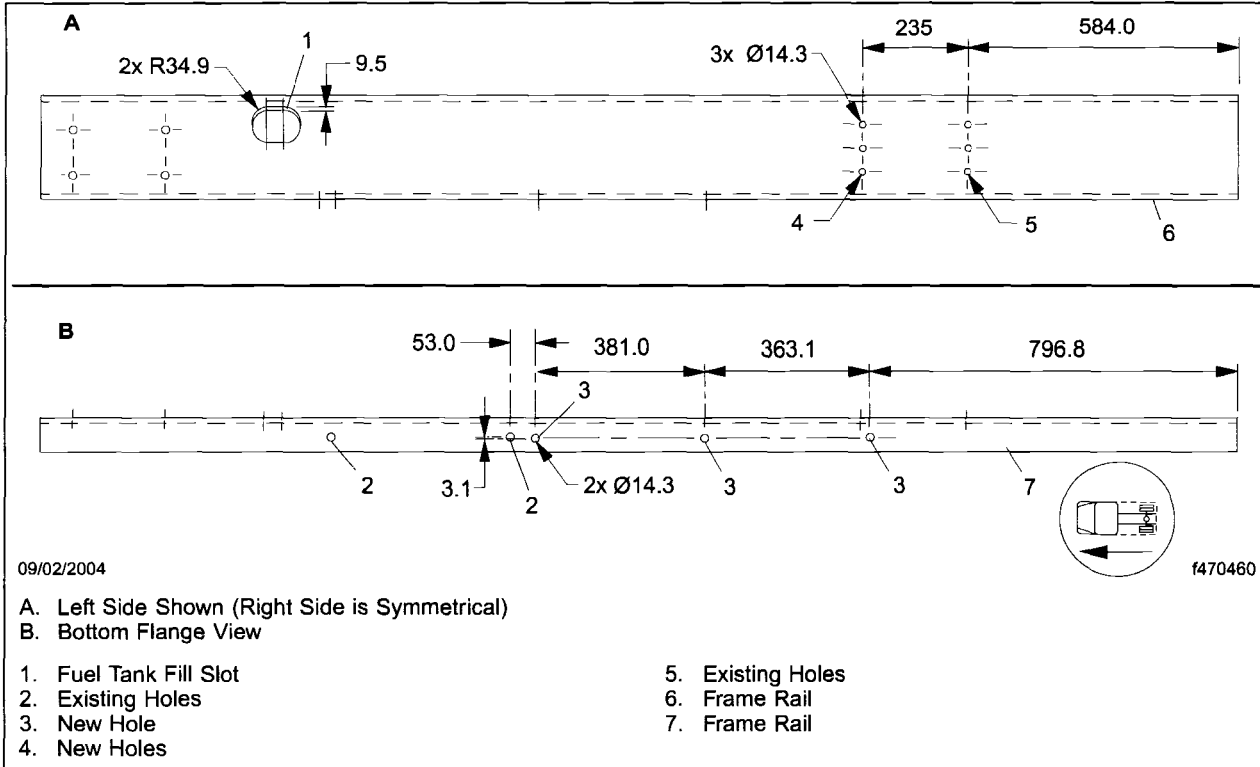

Fig. 1, New Hole Locations for Fuel Tank Mounting (measurements are in millimeters [mm])
4. Use a 1/2 inch drill bit and drill new holes in the frame rail. See **Fig. 1** for the direction to measure and locate the new holes.
- 4.1 For the side view, measure from the existing hole 9.25 inches (235 mm). Use the existing holes as a guide, keeping the new holes in line with the existing holes. See **Fig. 1**.
- 4.2 It may be necessary to modify the fuel fill slot. If so, remove 0.4 inches (9.5 mm) of material on the top side of the slot. Make sure there are no rough edges where a crack can start. After removing the material, grind all edges smooth. See **Fig. 1**.
- 4.3 For the bottom flange view, measure from the existing hole 2 inches (53 mm) and drill a new hole. From the hole just drilled, measure 15 inches (381 mm) and drill another hole. From this hole, measure 14 inches (363 mm) and drill a third hole. See **Fig. 1**.